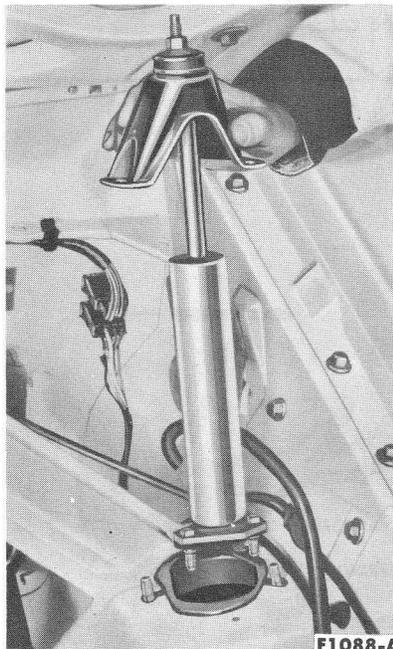

FIG. 8—Front Shock Absorber Removal
3. Remove the shock absorber upper mounting bracket retaining nuts. Lift the bracket and shock absorber from the car (Fig. 8).